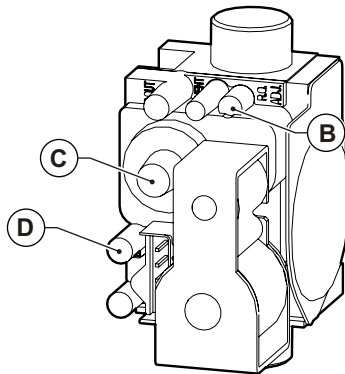

Fig. 35 Gas valve setting
- Set flue gas (CO2) content by turning the ratio adjuster **B** (see Fig. 35 Gas valve setting) and ensure that reading falls within the limits of Tab. 33 Flue gas CO2 rate.
- Check that the carbon monoxide (CO) value in the flue gas at the maximum power is below the limit of the Tab. 33 Flue gas CO2 rate.
- Turn the ratio adjuster **B** (see Fig. 35 Gas valve setting) to set flue gas oxygen content (O2) until it falls within the limits of the Tab. 34 Flue gas O2 rate.
- Turn the offset adjuster **C** (see Fig. 35 Gas valve setting) to set flue gas oxygen content (O2) and offset pressure until they both fall within the limits of the Tab. 34 Flue gas O2 rate.